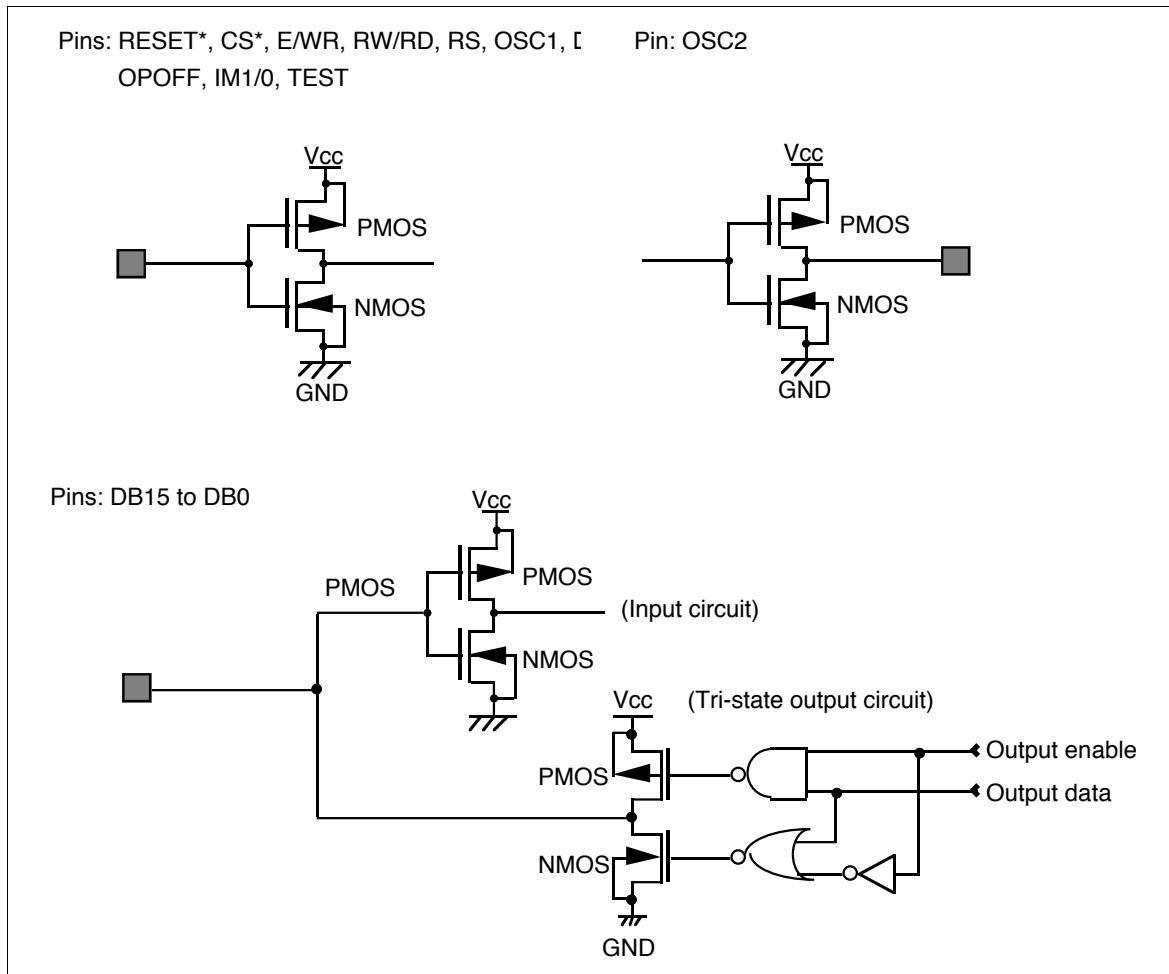

Figure 56 I/O Pin Configuration
2. The following three circuits are I/O pin configurations (figure 56).